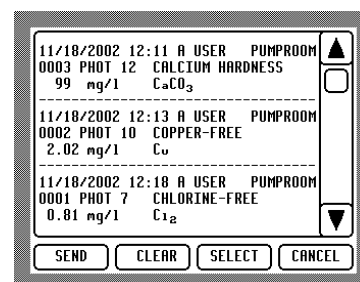

Figure 17 – Data Log
- Touch **Memory**. The Data Log (Figure 17) is displayed.